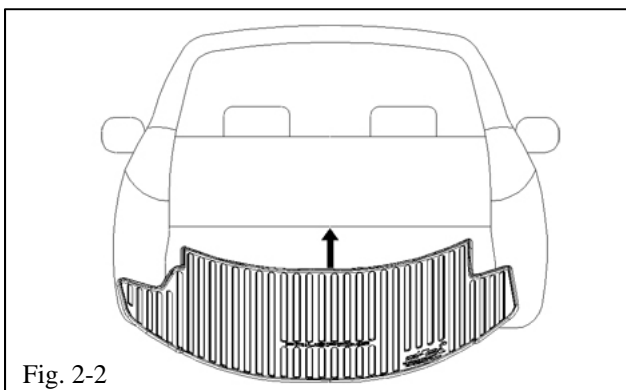

Fig. 2-2
- (b) Grasp the tray by the rear and fold in the sides sufficiently to slide it into the rear compartment (Fig. 2-2).